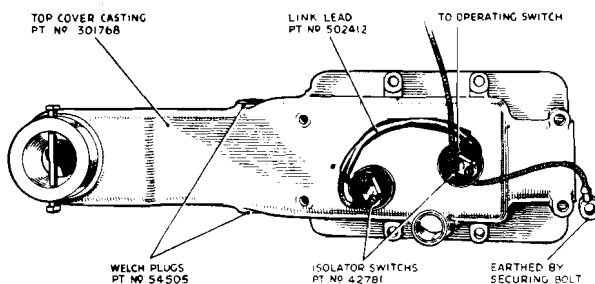

FIG. 2
3. GEARBOX TOP COVER ASSEMBLY Fig. 2
NOTE. A limited number of cars prior to Chassis No. TS.6280 were fitted with the new cover assembly and can be recognised by the two isolator switch bosses, Fig. 2.
Isolator Switches. The isolator switches, Fig. 2 (Part No. 42781), are not included in the top cover assembly (Part No. 502411) and will therefore be required.
One of the link wires is connected to earth (Fig. 2). The remaining link wire is connected through a snap connector to one side of the operating switch.